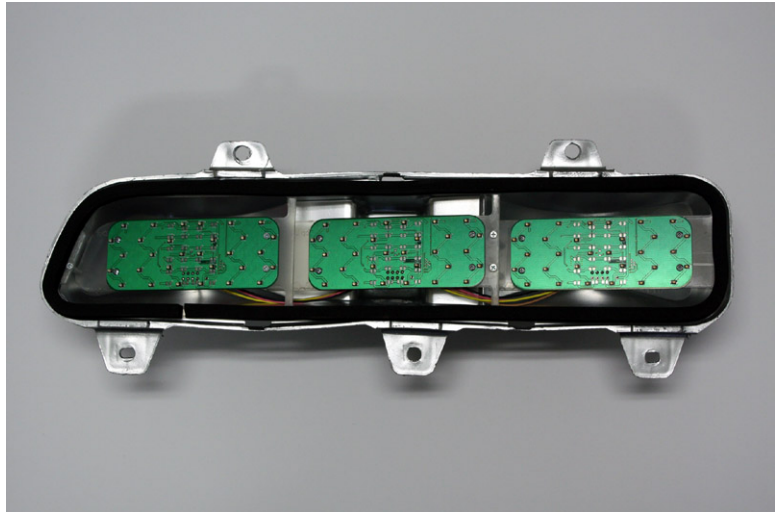

Figure 1
- 2.1. ORIENTATION OF PANELS – The Right Hand (labeled Top R) and Left Hand (labeled Top L) panels fit into the RH and LH housings respectively. (See Figure 1) Make sure the interconnect wires wrap around the side of the circuit boards and not over them. If not routed along the side, the panel assembly will not fit properly into the back housing.